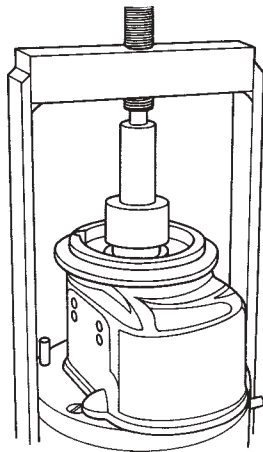

Figure 7.3
- D. Press the oil seal flush into the frame using the oil seal assembly plug (T-103) and the T-handle screw. (See Figure 7.3.)